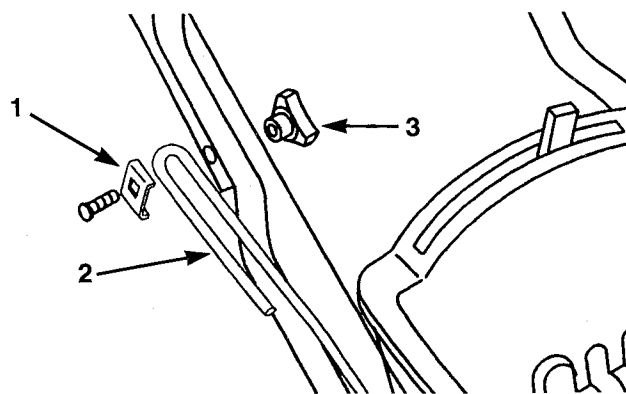

Figure 94
- C. Install the U-shaped end of the mounting rod against the outside of the mower handle, using the new bracket and the original bolt and handle knob (Fig. 94). Make sure the curved sides of the bracket fit around the mounting rod.